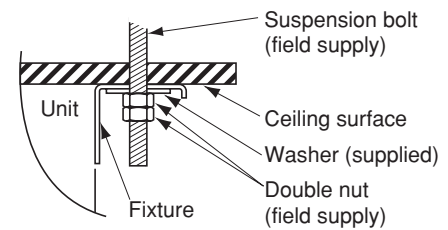
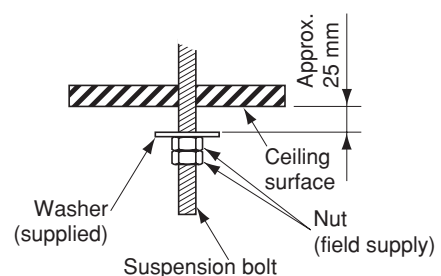

Fig. 3-43
Fig. 3-45
(6) Carry out the preparation for suspending the indoor unit. The suspension method varies depending on whether there is a suspended ceiling or not. (Figs. 3-43 and 3-44)
(7) Suspend the indoor unit as follows:
a) Mount 1 washer and 2 hexagonal nuts on each suspension bolt as shown in Fig. 3-45.